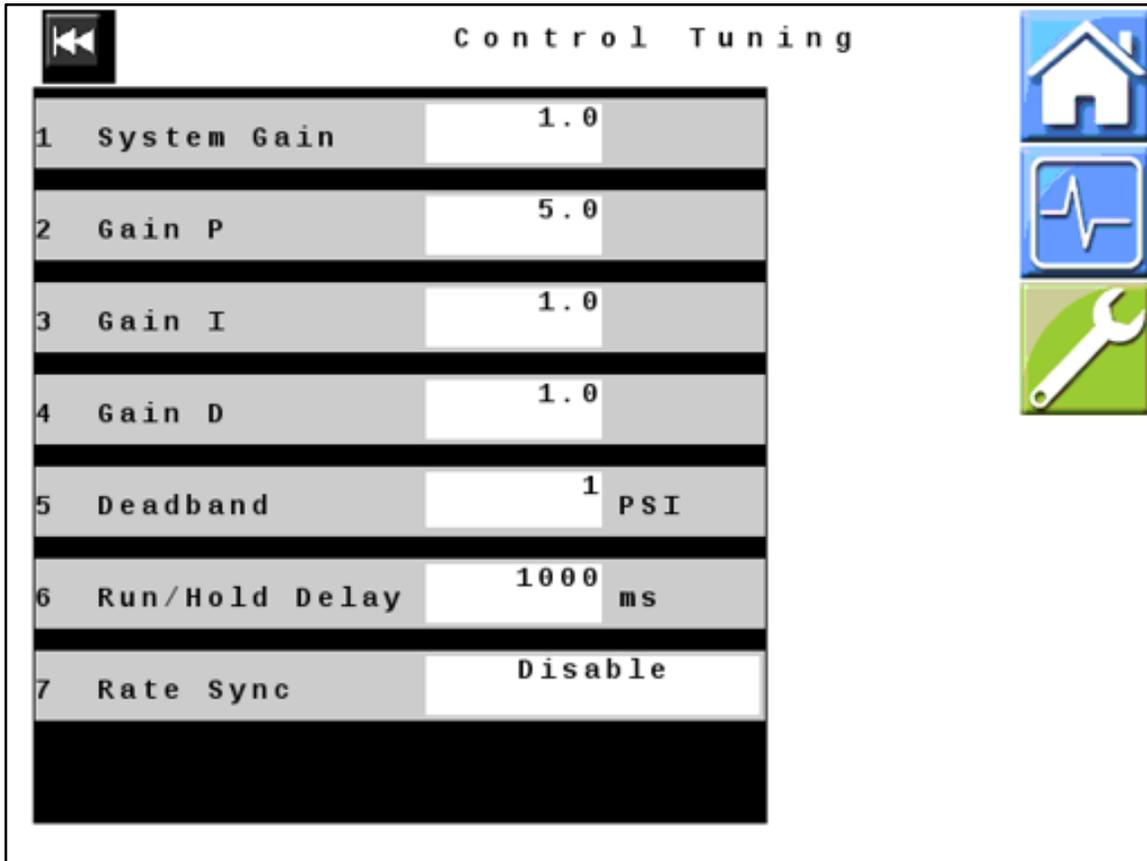

Figure 16 — Control Tuning
27. *Figure 16:* Verify that all values displayed on your unit match those shown here. Change values if necessary.